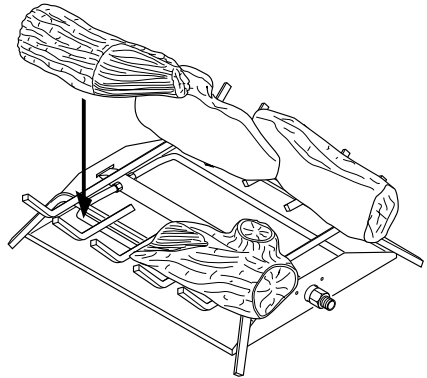

Figure 9 - Placement of Bottom Logs
2. Place one of the bottom logs on grate and slide forward against front grate bars. Repeat for other side (see Figure 9).